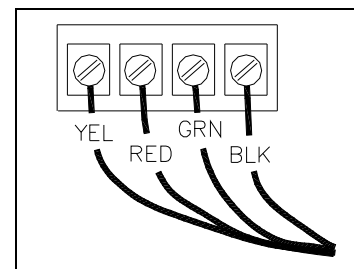

Figure 6. PCBA Connection
4. Connect the telephone cord's modular connector to the incoming subscriber line using the appropriate mating connector or connect the incoming line directly to the terminal strip. See Figure 6.
8. Connect the telephone cord's modular connector to the incoming subscriber line using the appropriate mating connector or connect the incoming line directly to the terminal strip per Figure 6